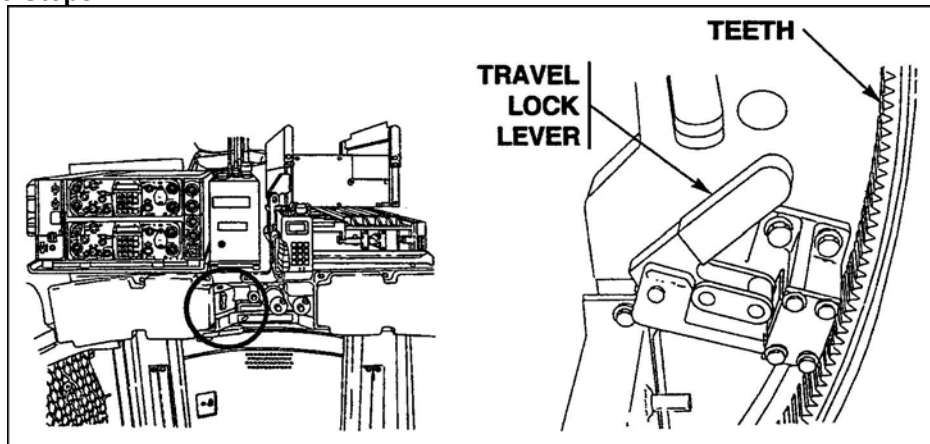

Figure 2. Turret travel lock.
- b. Ensure the turret drive switch is in the OFF position and the turret travel lock is engaged (Figure 2).